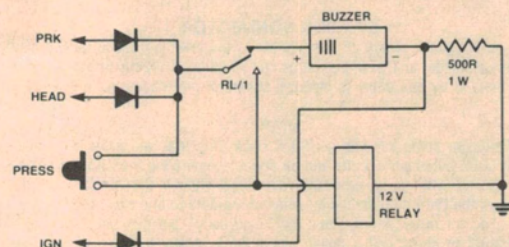

Figure 2. Over-riding the system.
2. Add a relay and a push button switch (on the dash board), as in Figure 2, and you can override the system. After you have switched off the lights the relay will drop out, leaving the device reset for further protection.